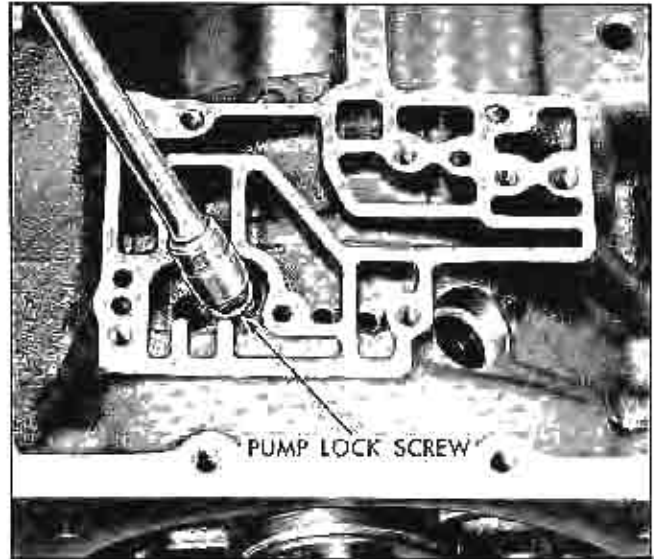

Fig. 54 Removing Front Pump Locking Screw
1. Remove pump locking screw (Fig. 54) from control valve case pad.